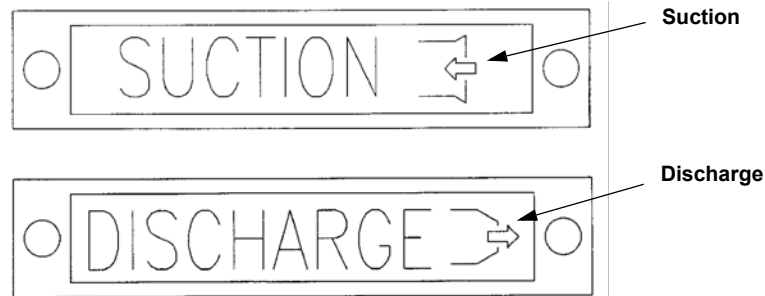
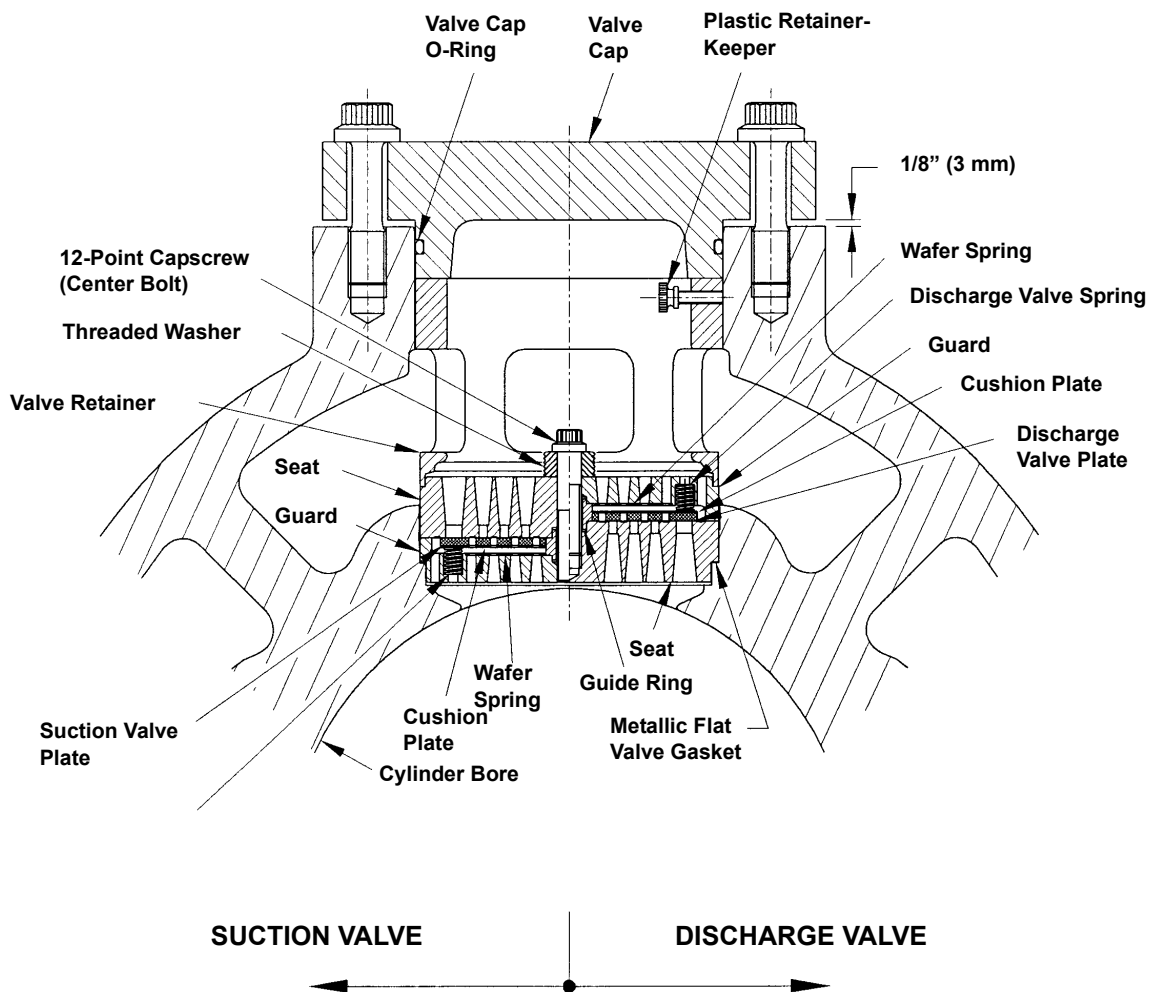

FIGURE 5-44: COMPRESSOR CYLINDER VALVE POCKET IDENTIFICATION PLATES
FIGURE 5-45: TYPICAL VALVE ASSEMBLIES
1. Loosen all of the cap screws slightly, on each valve cap. With all the cap screws loose, the cap should stay in its original position. If it pushes out on its own accord, **stop!** Take steps to completely vent the cylinder. See Caution above. A typical valve assembly is shown in Figure 5-45: on Page 5-59.
- Be sure that suction valves are installed only in suction pockets and discharge valves only in discharge pockets. The valve pockets have identification plates, see Figure 5-44: All valves are installed with the valve fastener(s) positioned away from the cylinder bore. If a valve is not marked for suction or discharge, or to verify the type, depress the valve plate by hand. It is recommended that a tool which is softer than the valve plate material be used or care be exercised to prevent damage to the plate. A suction valve plate can only be depressed from the valve fastener (bolting) side of the valve, and a discharge valve plate can only be depressed from the side of the valve that goes toward the cylinder bore. Reference Figure 5-45: on Page 5-59.